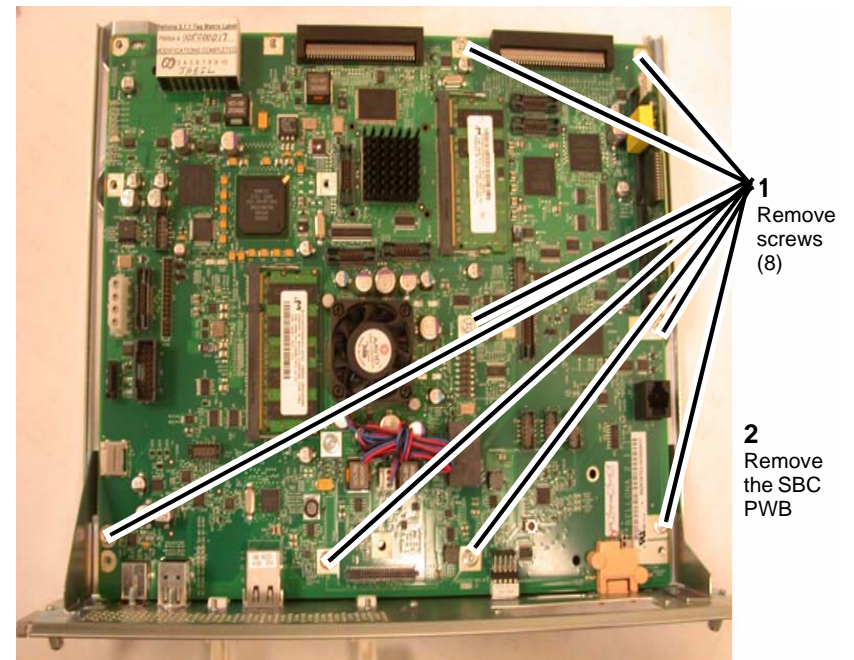

Figure 4 Removing the SBC PWB
9. Remove the SBC PWB (Figure 4).
2. Install the SBC in the SBC Chassis (Figure 4).